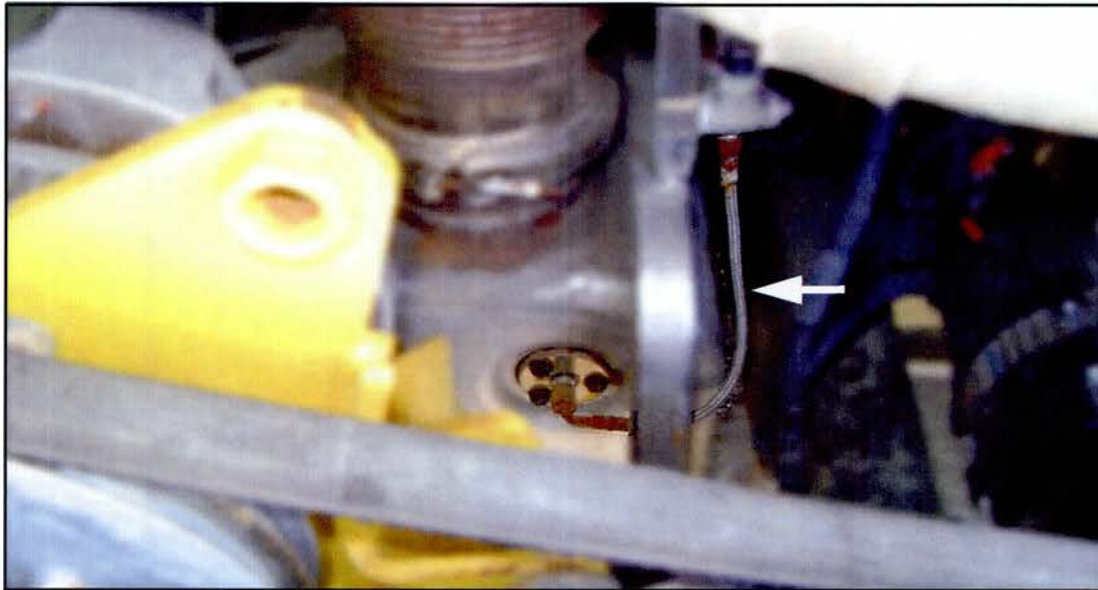

Figure 1.
4. Locate the stainless steel DEF nozzle supply hose on the selective catalytic reduction exhaust aftertreatment unit (SCR) in the lower, roadside section of the engine compartment (refer to Figure 1).
5. Remove and discard the DEF nozzle supply hose (refer to Figure 1).